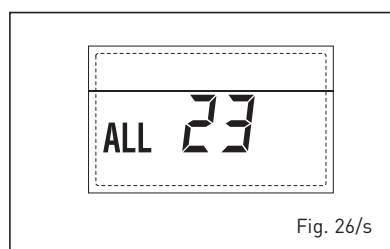

Fig. 26/s
– **ANOMALIA GUASTO SONDA COLLETTORE SOLARE S1 "ALL 24" (fig. 26/t)**